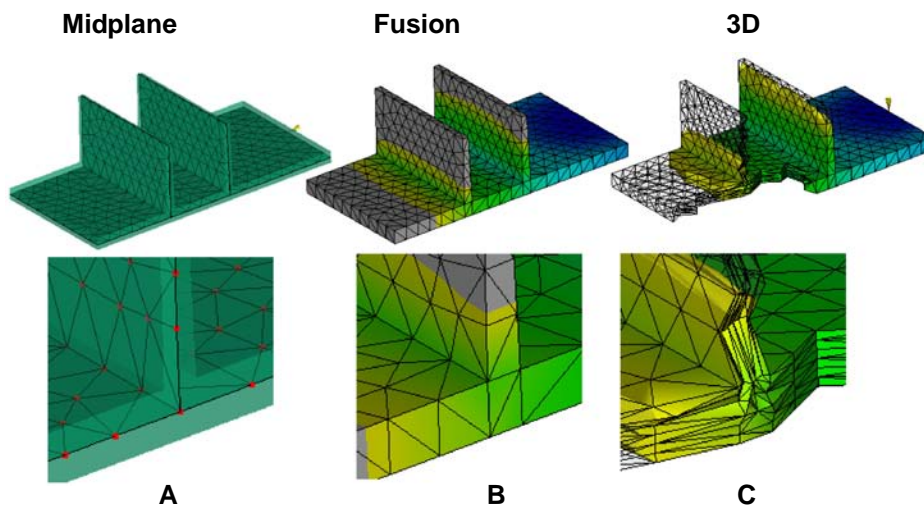

Figure 15: Mesh types
- The mesh is defined on the “midplane” or center line of the plastic cross section as shown in Figure 15 A.
Triangular elements are defined on the surface of the plastic as shown in Figure 15 B.
- Tetrahedral elements are used to represent the part. Several rows of elements are used to define the cross section as shown in Figure 15 C.